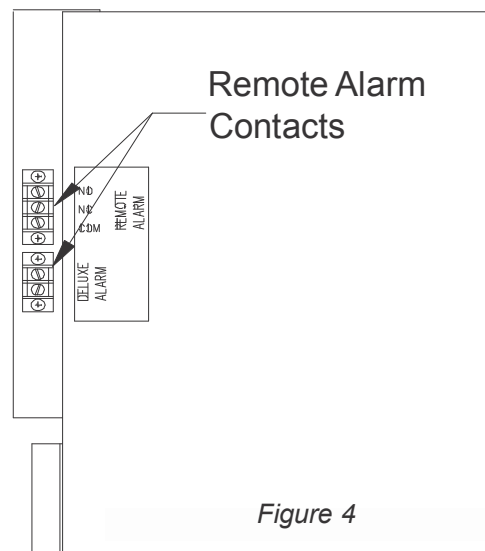

Figure 4
All contacts are capable of switching up to 24 volts AC/DC @ 2 amps. The common (C) and normally closed (NC) contacts open during an alarm. The common (C) and normally open (NO) contacts close during an alarm. The contacts for the Deluxe Remote Alarm are normally closed and open during an alarm. Figure 4 shows the location of the remote and deluxe alarm contacts.